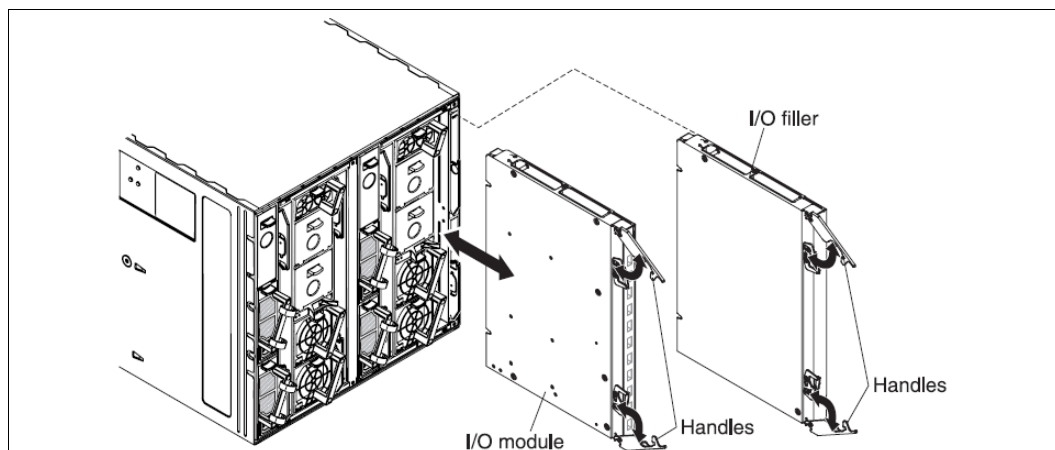

Figure 4-2 Switch installation
3. Remove the switch from its static-protective package and ensure that the release handles on the switch are in the open position (perpendicular to the switch as shown in Figure 4-2). Then, slide the switch into the applicable I/O bay until it stops.